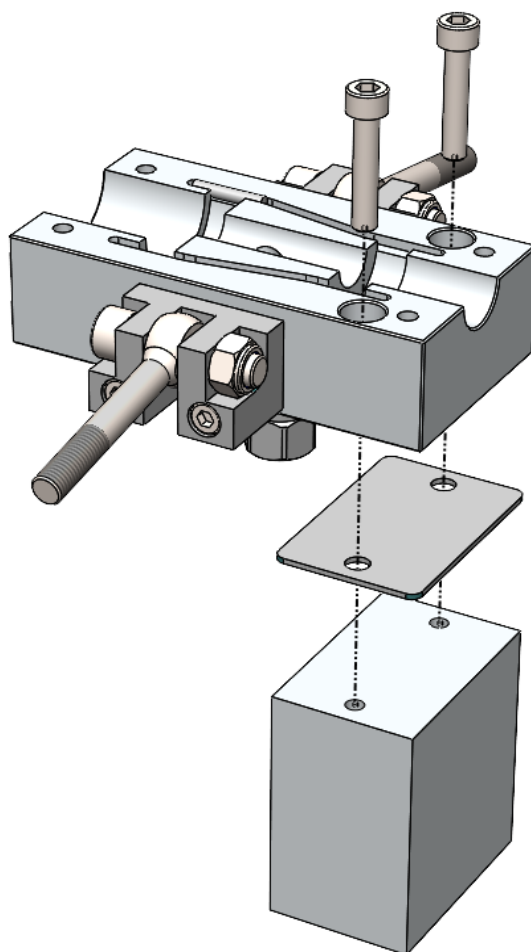

Fig. 10a Installation of the calibration plate
- Make sure that the cable is led centrally to the head. If necessary, adjust the head height. To adjust the position of the head, unscrew the fixing screws (Fig. 10a), then align the head by inserting the calibration plates and tighten the screws.